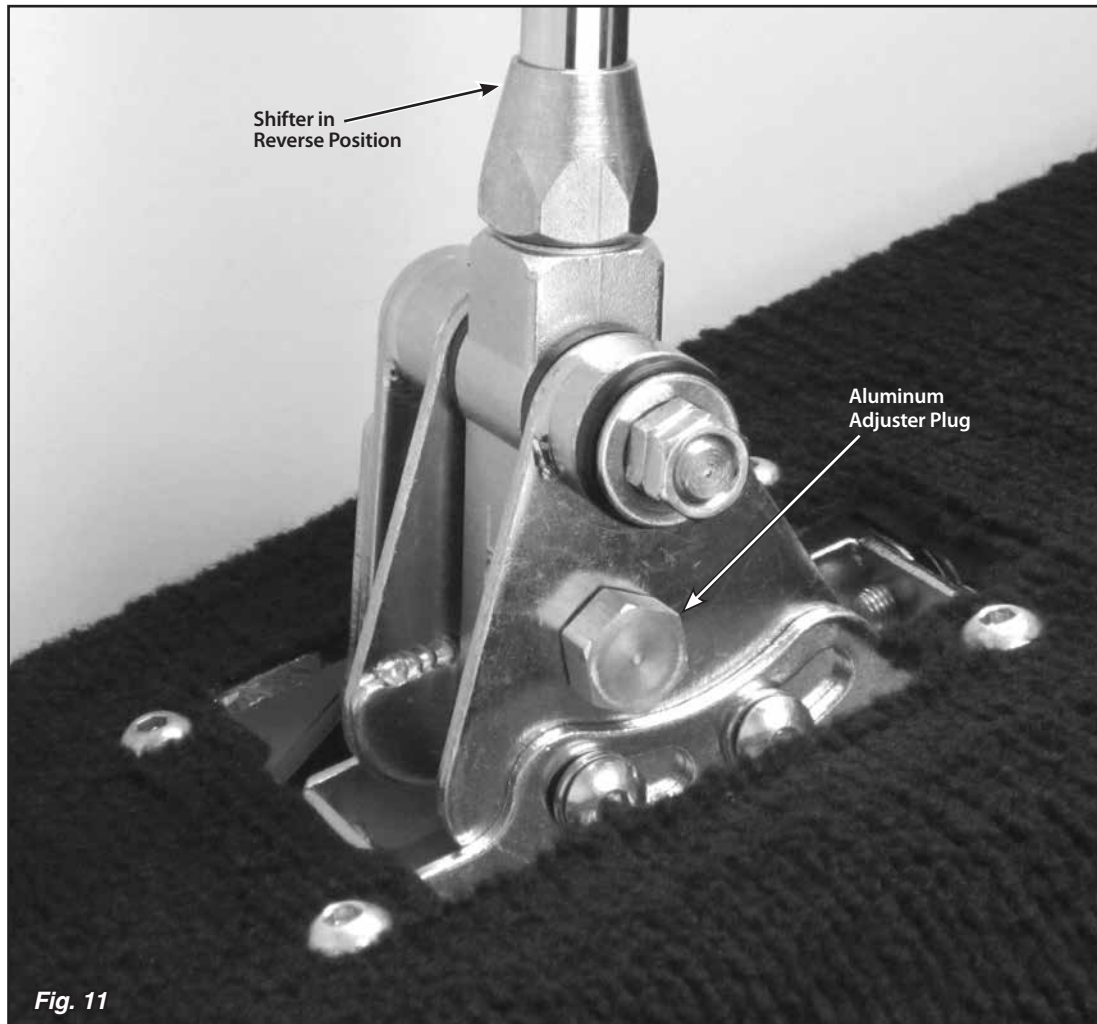

Fig. 11
Step 16: Put the shifter into the Reverse position. Reposition the switch plate so that the hole in the switch plate lines up with the center groove in the shifter body. **Fig. 10** Screw the provided aluminum adjuster plug into the neutral safety switch opening. Wiggling the switch plate slightly forward and back while you are screwing the aluminum adjuster plug in will help get the shifter body centered on the adjuster plug. **Fig. 11**
- **If there are (2) connections for a neutral safety switch**, run a #12 (or heavier) stranded wire from these terminals in your fuse panel to the (2) terminals on the neutral safety switch. That completes the Neutral Safety Switch wiring.